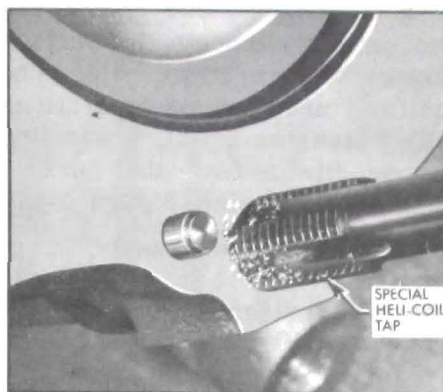

Figure 2-77—Tapping New Thread
2. Cut new threads. See Figure 2-77.